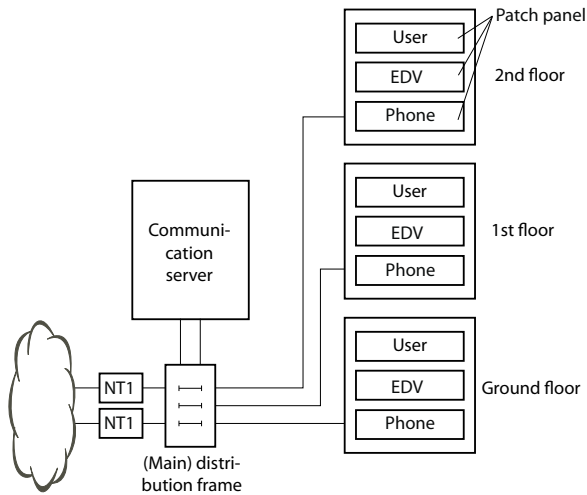
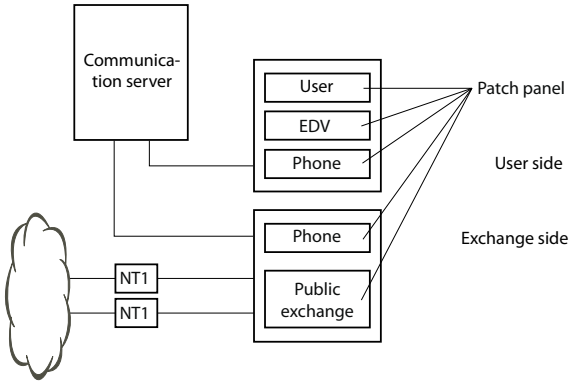

Fig. 26 Connecting to a UBC via a (main) distribution board (example)
Fig. 27 Connecting to a UBC via wiring centre (example)
- Indirect cabling via (main) distribution frame and any universal building cable installation (UBC) (see also Fig. 26 and Fig. 27).